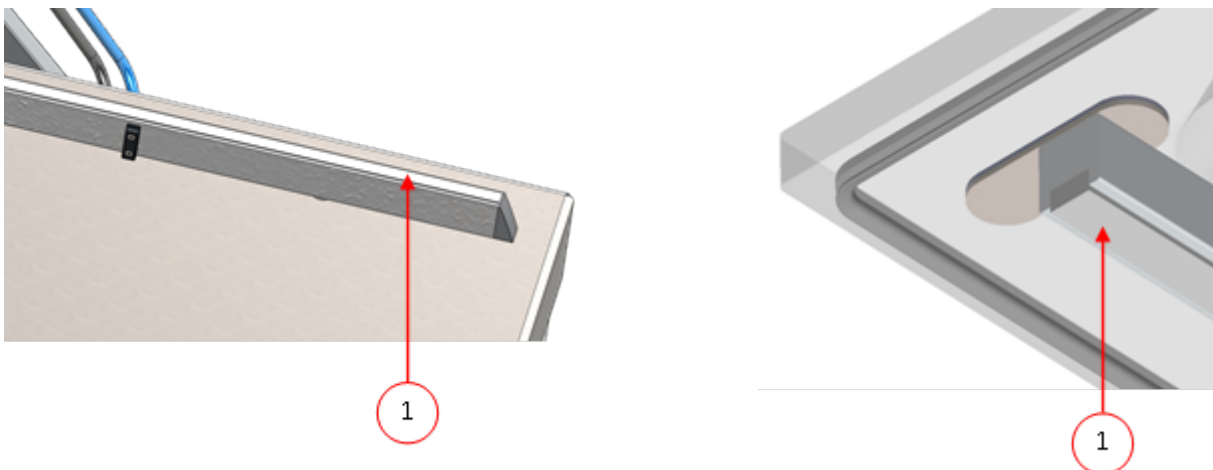

Figure 27: Replacing the Silicone Rubber of the Silicone Holders
1. Pull the old silicone rubber from the holder, see *Figure 27: Replacing the Silicone Rubber of the Silicone Holders* on page 59.